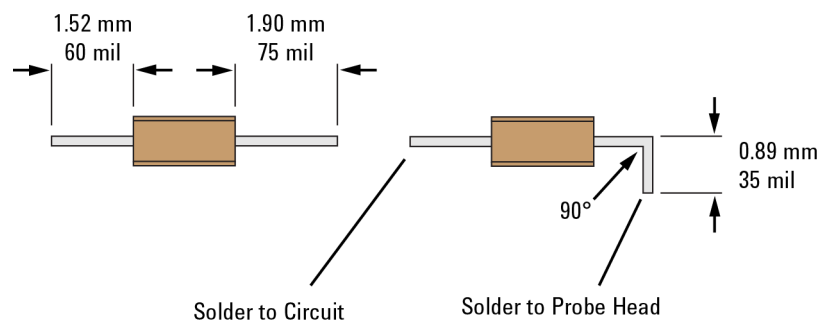
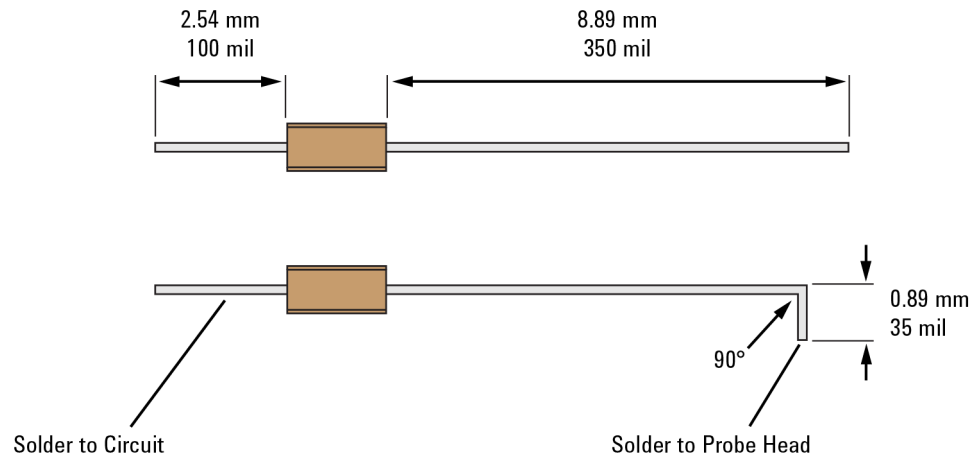

Figure 105 91Ω and 0Ω Combination Resistor Trim Dimensions
Figure 106 150Ω and 0Ω Combination Resistor Trim Dimensions
- 9 Using another pair of tweezers, bend the 1.90 mm or 8.89 mm lead 90° as shown in **Figure 105** and **Figure 106**.